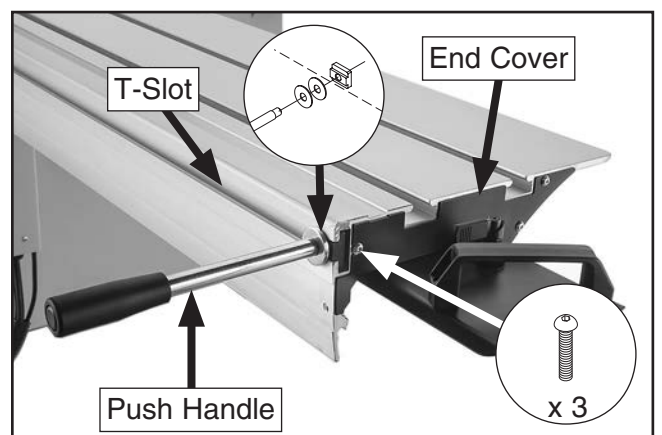

Figure 21. End cover and push handle installed.
4. Attach end cover to sliding table with (3) pre-installed M5-.8 x 10 button head cap screws (see **Figure 21**).
5. Slide M12-1.75 T-nut on push handle assembly into T-slot at front end of sliding table, as shown in **Figure 21**, then tighten handle. It may be necessary to loosen T-nut first.
Note: Make sure pre-installed 12mm flat washer and 12mm copper washer are positioned in front of T-slot, as shown in **Figure 21**.